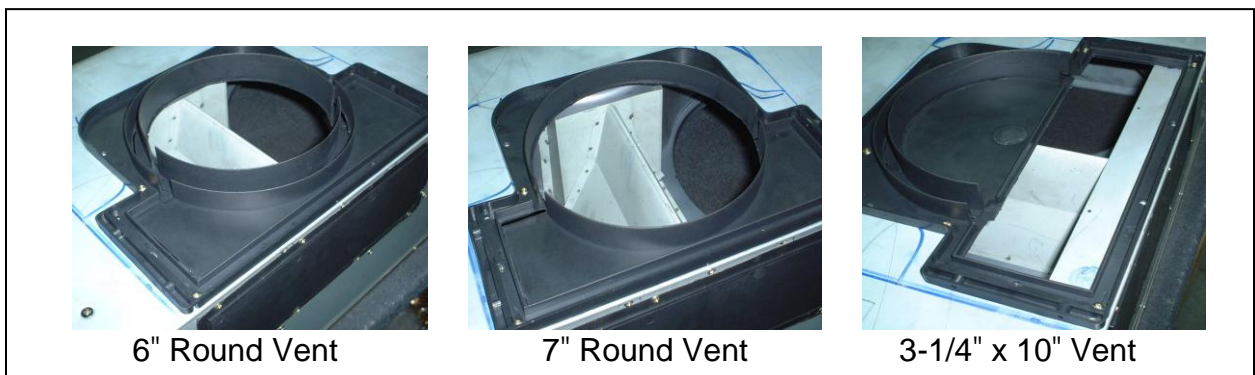

Figure 15
- Cut the multi vent exhaust according to the size of the venting pipe. Refer to Figure 15.